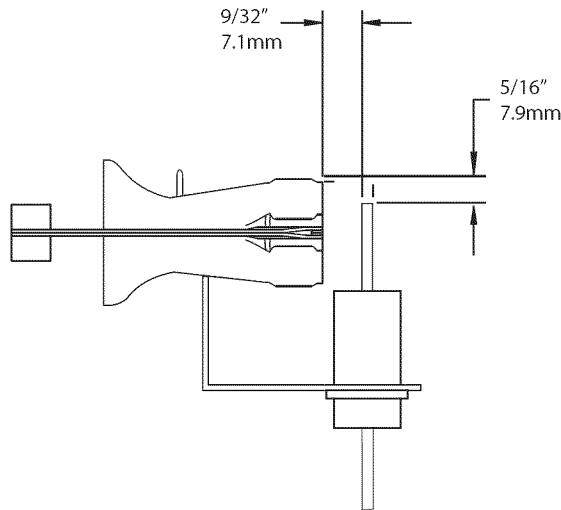

Fig. 36 - Igniter Position - Side View
6. For Silicon Nitride igniters, see Fig. 36 and 37.